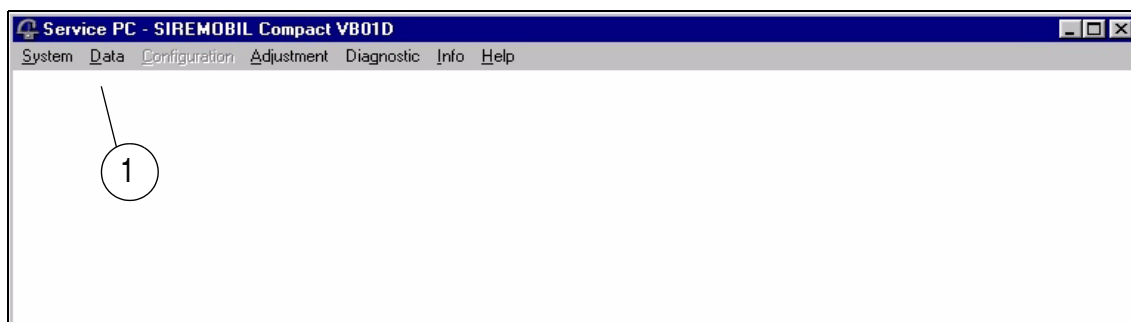

Fig. 1
- The program window "Service PC- SIREMOBIL" (Fig. 1) is displayed.
- Select the "Data" menu in the "Service PC- SIREMOBIL .." main window (1/ Fig. 1).